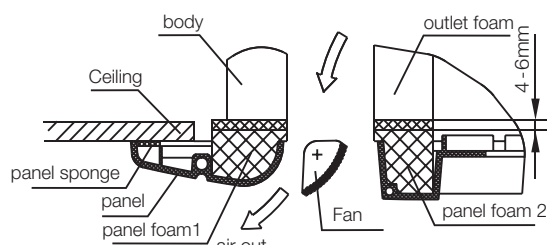

Fig.4-16
- 6) Keep fastening the screws under the panel hooks, until the thickness of the sponge between the body and the panel's outlet has been reduced to about 4-6mm. The edge of the panel should contact with the ceiling well. (Refer to Fig.4-16)